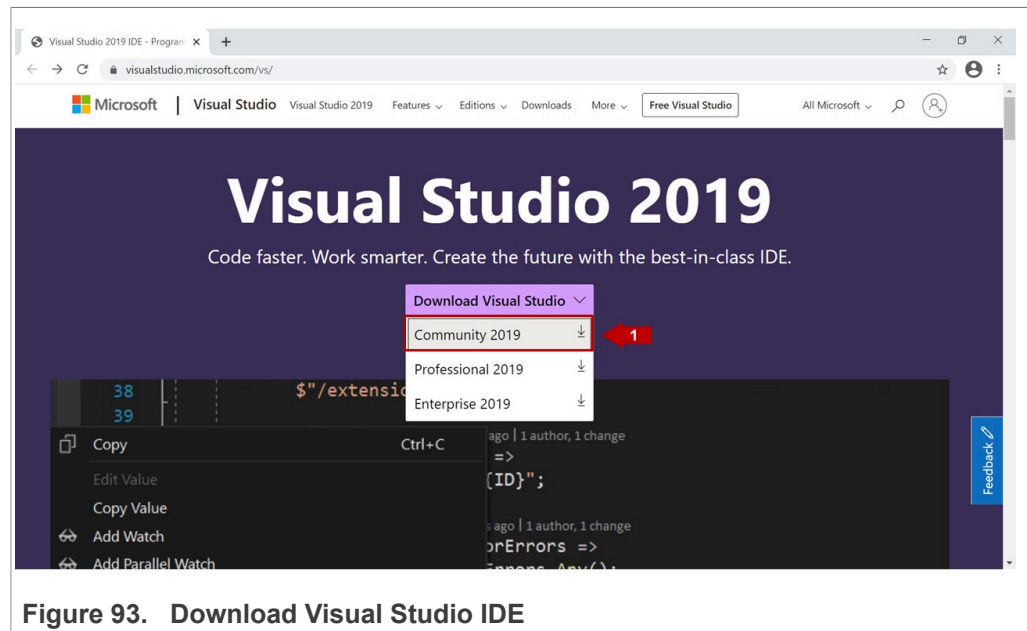

Figure 93. Download Visual Studio IDE
2. Select (1) **Windows** and click on **Community 2019** in the *Download Visual Studio* button as shown in Figure 93: